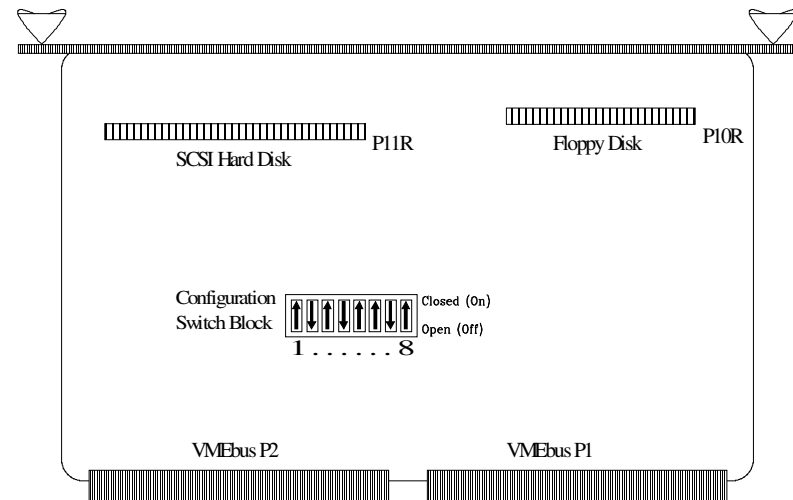

FIGURE 2
The EPC-1GE processor module comes configured for use with a GE Fanuc Series 90-70 PLC acting as slot-1 controller. An EPC-1MS mass storage module and an EGA monitor are included. All the switches necessary for modifying this configuration are in a single DIP switch block on the top board of the processor module. Disassembly of the module is neither required nor recommended, and may in fact void your warranty. Figure 2 shows the default settings of the eight switches in the switch block. Note that the actual DIP switch assembly on your module may look somewhat different—the switches are set as shown, though, regardless of appearance.
**Note:** Since VMEbus slot-1 controller functions are provided by the GE Fanuc PLC CPU, these functions must be disabled on the EPC-1GE. Setting switch 2 in the Open (Off) position, as shown in Figure 2, disables the EPC-1GE's slot-1 controller capability.
Please take a few minutes to verify that the switch settings on your module are the same as shown in Figure 2. Switch settings may be different, depending on your configuration. For instance, if you have a CGA-compatible monitor, the